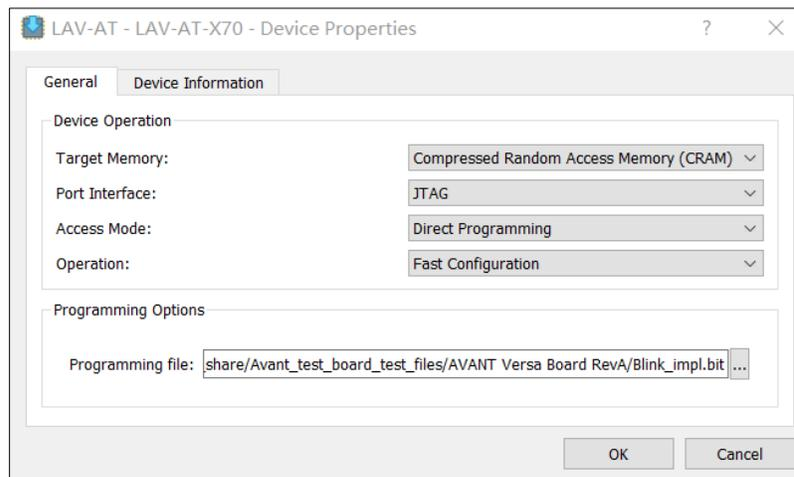

Figure 4.3. Radiant Programmer – Device Properties
6. The Device Properties dialog box opens, as shown in Figure 4.3. Select the following options: